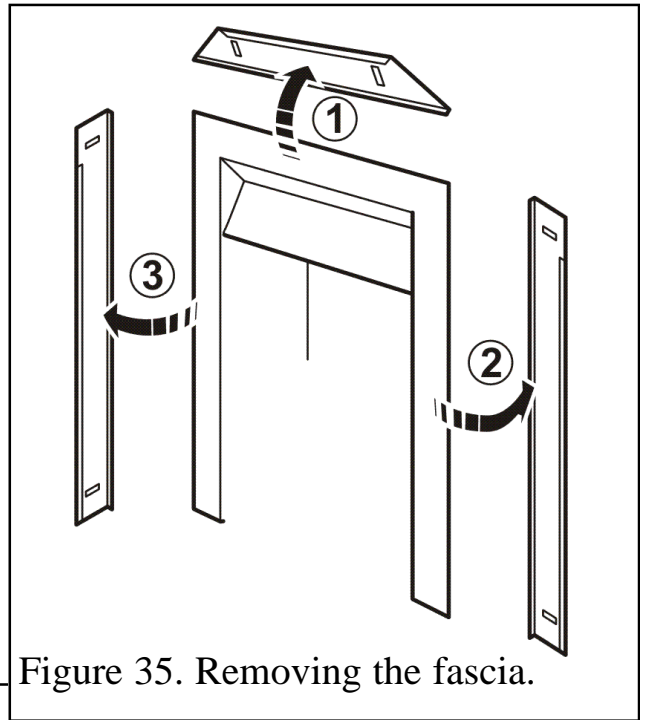

Figure 35. Removing the fascia.
2. The fascia is made up of three pieces. These pieces are held in place by magnets. Remove the top fascia piece by pulling forward. Place carefully aside (See figure 35).
3. Remove the side fascia pieces by pulling forward. Place carefully aside (See figure 35).